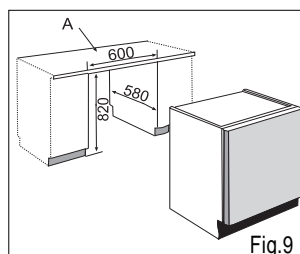

Fig.9
Positioning the Unit within the Cutout (see Fig.9)
Push the dishwasher into the cutout opening and turn the feet to make it level and to adjust for height so that the crosspiece (A) for fastening it in place located on the top part of the machine (see Fig.9) comes into contact with the counter. Align the door panel mounted on the dishwasher with the doors on the adjacent cabinet (2).